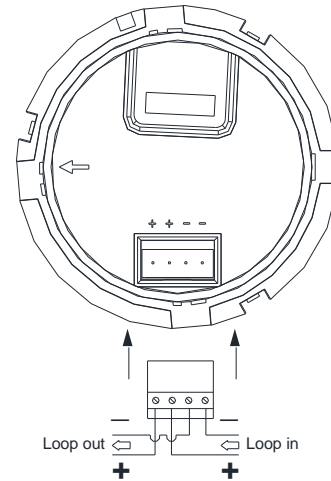

Fig. 2: Terminal loop wiring connections
3. Connect the conductors to the terminal connector (see Fig. 2).